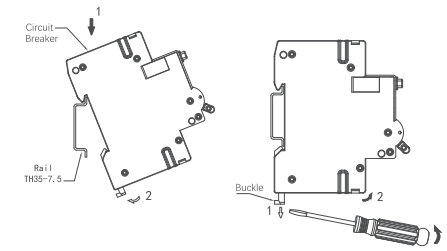

Figure 3. Installation and disassembly
7.3.2 Put the circuit breaker into the rail at the upper end of the installation guide rail, and push the buckle end of the circuit breaker into the guide rail, see Figure 3.
7.3.3 Remove the circuit breaker by pulling the buckle. See Figure 3 for the schematic diagram of the disassembly.